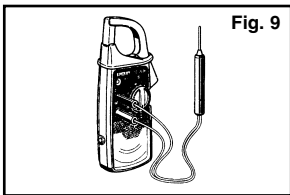

Fig. 9
- (1) Set the range switch to the TEMP position.
- (2) With the test leads shorted set the pointer over the "CAL" mark at the right end of the temperature scale, using the ohm zero adjust knob.
- (3) Remove the test leads from the instrument. Insert the red banana plug of the temperature probe Model TP-7060 into the "OHM" terminal and the black banana plug into the "COM" terminal (Fig.9).
- (4) Apply the prod of the temperature probe to the object under test and read the temperature reading directly on the temperature scale.